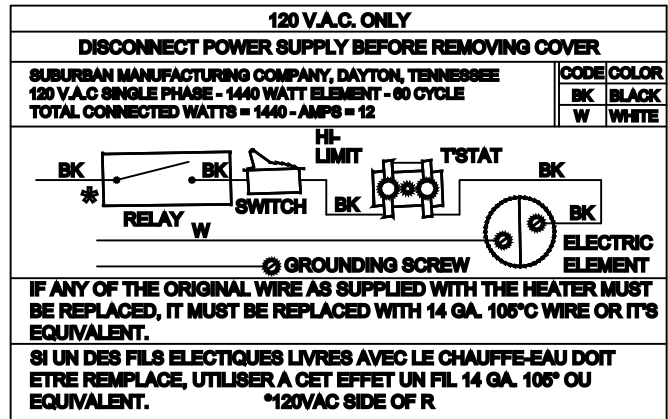

Figure 7
C. Check rating plate and wiring diagram (Figure 7) before proceeding. Install a fused safety switch or circuit breaker of adequate capacity between heater and electrical power source. Attach the black and white wires from the fused switch or breaker to corresponding colored wires in heater junction box. A green wire from a well grounded source must be attached to the green nut in the junction box.